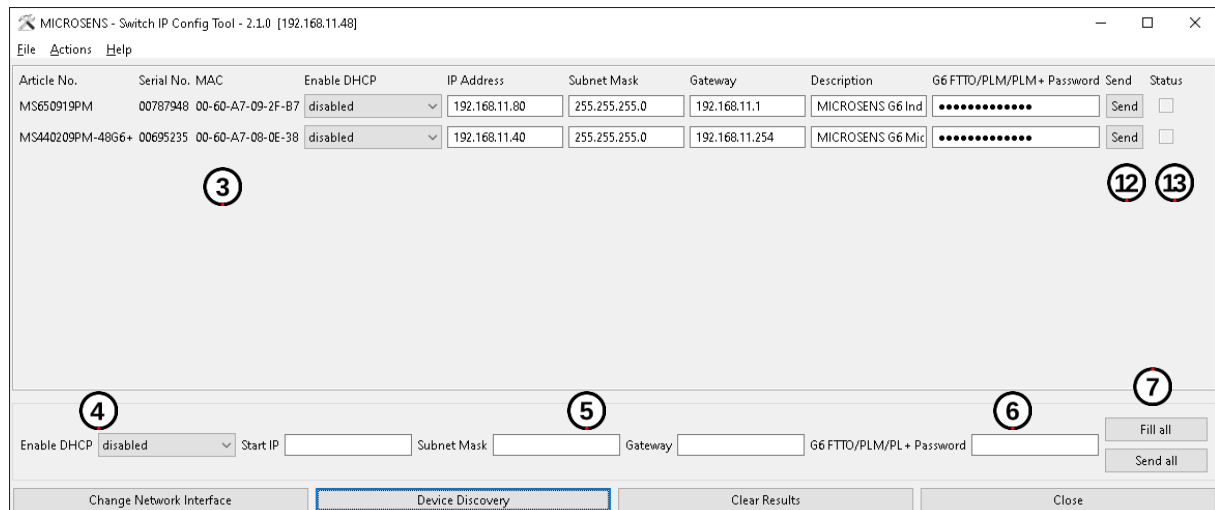

Fig. 6: Information Pane with Search Results
All devices discovered are listed afterwards in the information pane (Fig. 6, ③).
It is possible to edit the editable text field of a single list entry. Just alter the desired setting of the field (e.g. IP settings or description) and hit the button "Send" (Fig. 6, ⑫) of the respective entry row.
- The status indicator (Fig. 6, ⑬) changes to yellow which means that the configuration is being applied.
It is possible to configure multiple devices at once by using the configuration options at the bottom (Fig. 6, ④ to ⑥).
Enter the desired settings for DHCP and IP settings into the fields and hit the button "Fill all" (Fig. 6, ⑦). All settings are transferred to the respective list field.
Hit the button "Send all" (Fig. 6, ⑦) to send the specific settings to the respective device.
If this happens enter the correct password for the respective device and manually send the new settings by hitting the button "Send" (Fig. 6, ⑫).
Enter the start IP address into the specific field (Fig. 6, ⑤) and hit the button "Fill all" (Fig. 6, ⑦).